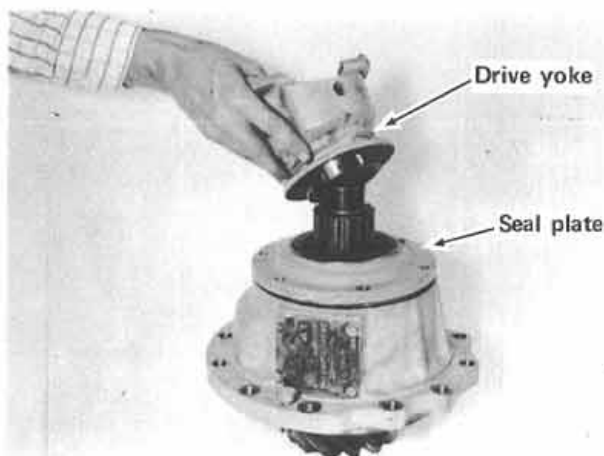

Figure 18
**Step 19** Pull the drive yoke from pinion shaft. (see figure 18)
**Step 20** Remove the seal plate from the pinion shaft. (see figure 18)